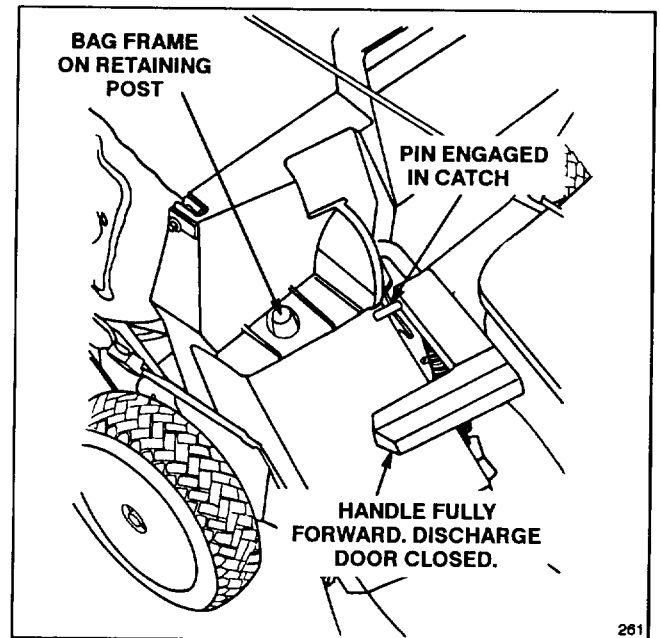

Figure 12
2. Ensure chute door handle is fully forward and pin is engaged in catch (Fig. 12).
3. **INSTALLING BAG**—Slide hole in bag frame onto retaining post on housing (Fig. 12) and set rear of bag frame onto support rod.
5. **EMPTYING BAG**—Stop engine and wait for all moving parts to stop. Raise discharge door handle and move it forward to engage the locking pin with catch (Fig. 12). Grasp handle at front and rear of bag and lift bag off mower. Gradually tip bag forward to empty clippings.